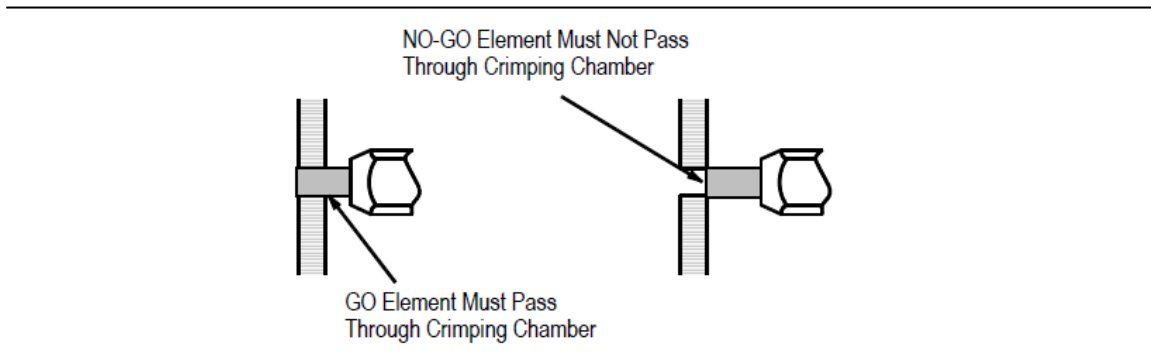

Figure 6
2. Align the GO element with the wire barrel crimping chamber. Push element straight into the crimping chamber without using force. The GO element must pass completely through the crimping chamber as shown in Figure 6.
- Align the NO-GO element and try to insert it straight into the same crimping chamber. The NO-GO element may start entry but must not pass completely through, as shown in Figure 6.
- Removed Hex wrench pictorial from original Figure 6; made notation in table